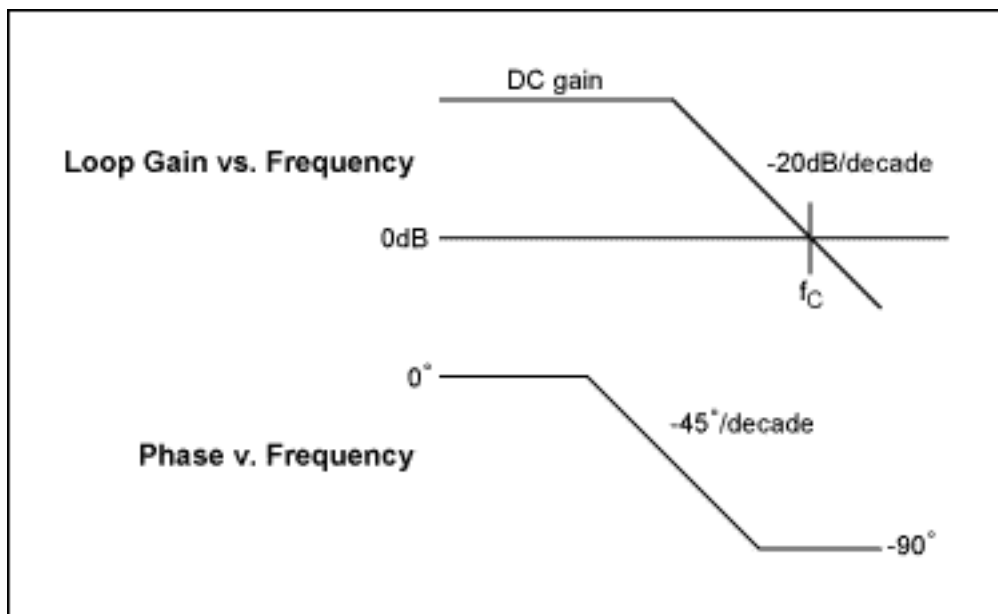

Figure 3. Bode plot of single-pole loop gain.
**Figure 3** shows a single-pole response where the gain rolls off at  $-20\text{dB/decade}$  and crosses unity gain with a  $90^\circ$  phase shift.